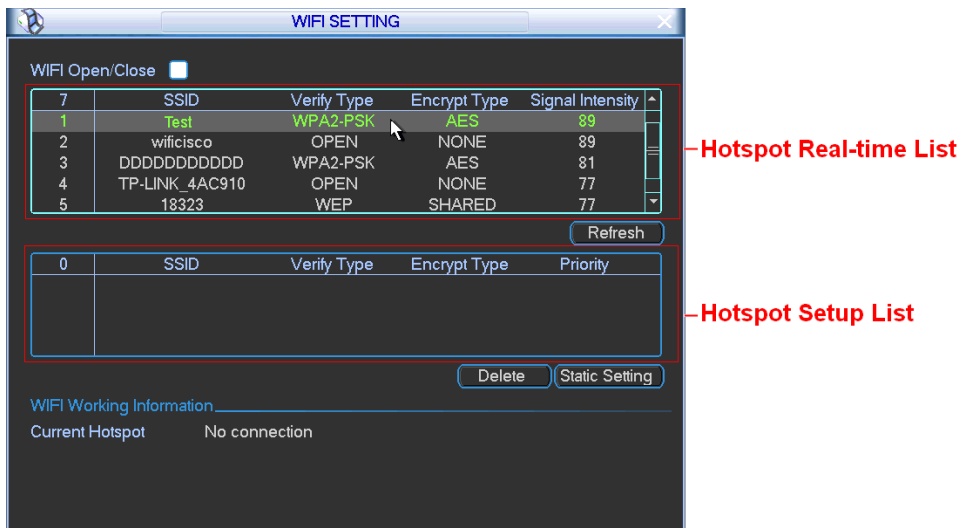
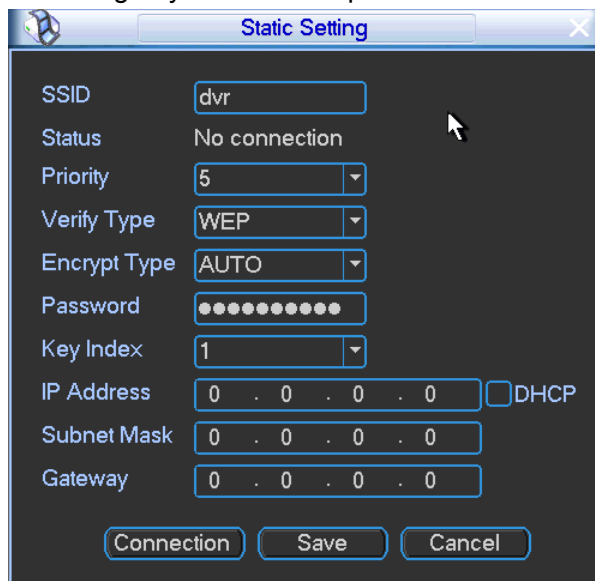

Figure 5-25
Figure 5-28
The WIFI interface is shown as below. See Figure 5-25.
In Figure 5-25, click the Static setting button; you can go to the following interface. See Figure 5-28.
- On the static setting interface (Figure 5-28), only the hotspot of WEB authentication mode can supports key-index.